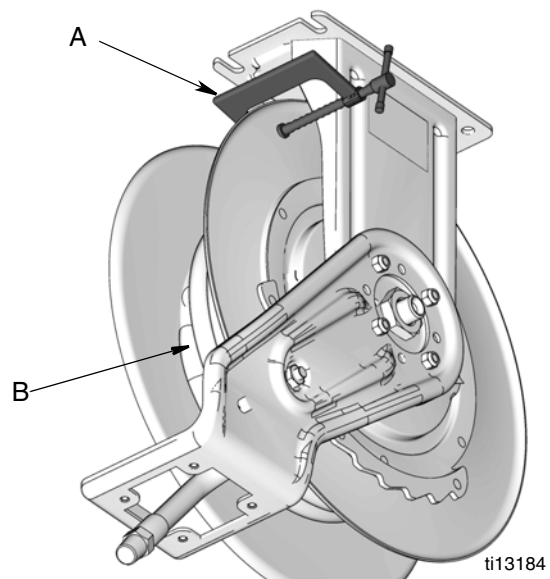

FIG. 19
2. Fully extend the hose (B) and latch the reel.
3. Attach a C-Clamp (A) to the reel flange to help prevent the reel from unintentionally becoming unlatched and spinning freely (FIG. 19).